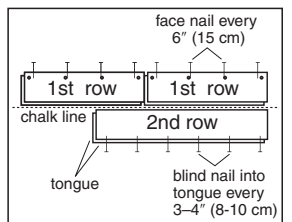

Figure 6
- Use the longest, straightest boards available for the first two rows. For random and alternate width products, use the widest plank for the first row. Align tongue of first row on chalk line. The groove should be facing the starting wall. Pre-drill 1/2" (13 mm) from back (groove) edge, 1"-2" (2.5-5 cm) from each end, and at 6" (15 cm) intervals when possible (Figure 6). Fasten using 4 or 6d finishing nails or 1" (2.5 cm) pneumatic finish nails/brads. Countersink the nails.